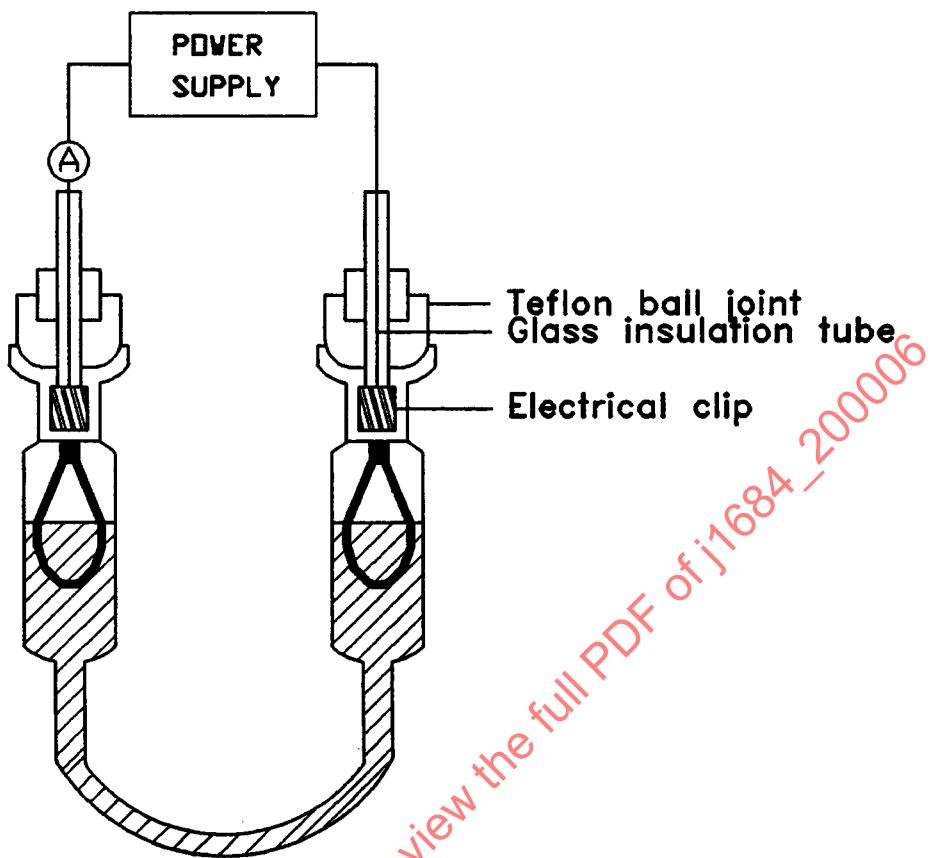

FIGURE 4—"U" TUBE APPARATUS TO DETERMINE ELECTROCHEMICAL RESISTANCE
8.1 Connect the hook-up wire to the crocodile clip and insert through the glass insulation tube as shown in Figure 4.
8.9 Make three of the previous assemblies per test, see Figure 4.